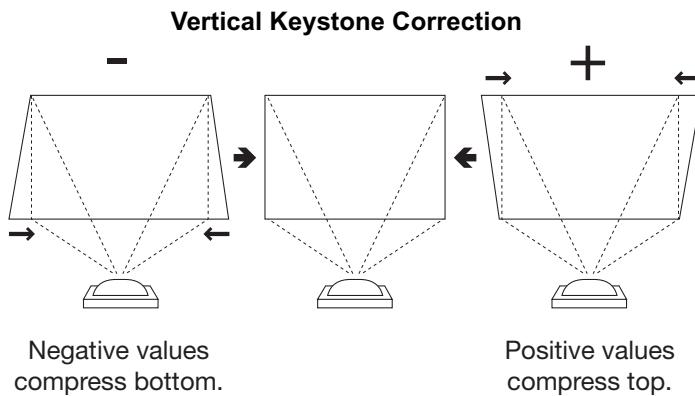

Figure 4-6. Keystone Correction
- **Installation - Keystone:** If the projector and screen are not installed perpendicular to each other, the image may become distorted in a trapezoidal shape, as shown in Figure 4-6. Select Keystone from the Configure menu to compensate for this.